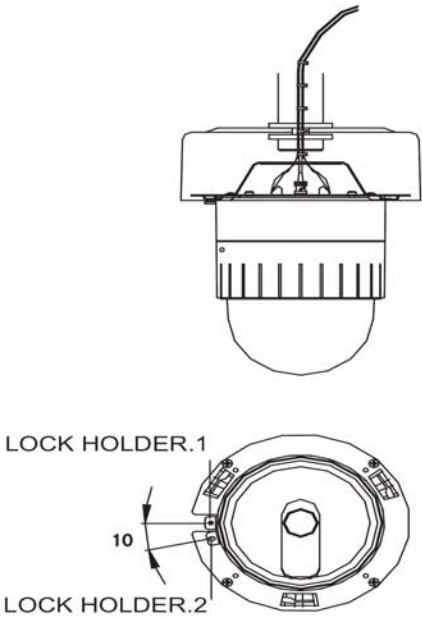

FIG.40
- I-5. To assemble, rotate the camera clockwise by 10°. (FIG. 40)